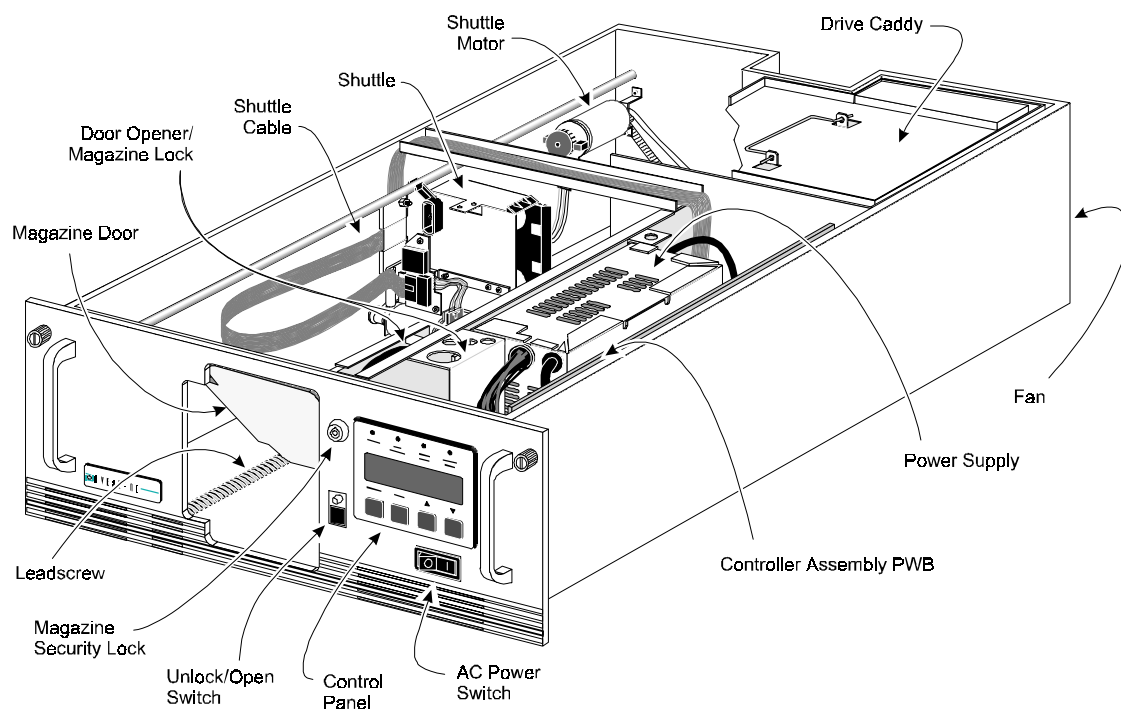
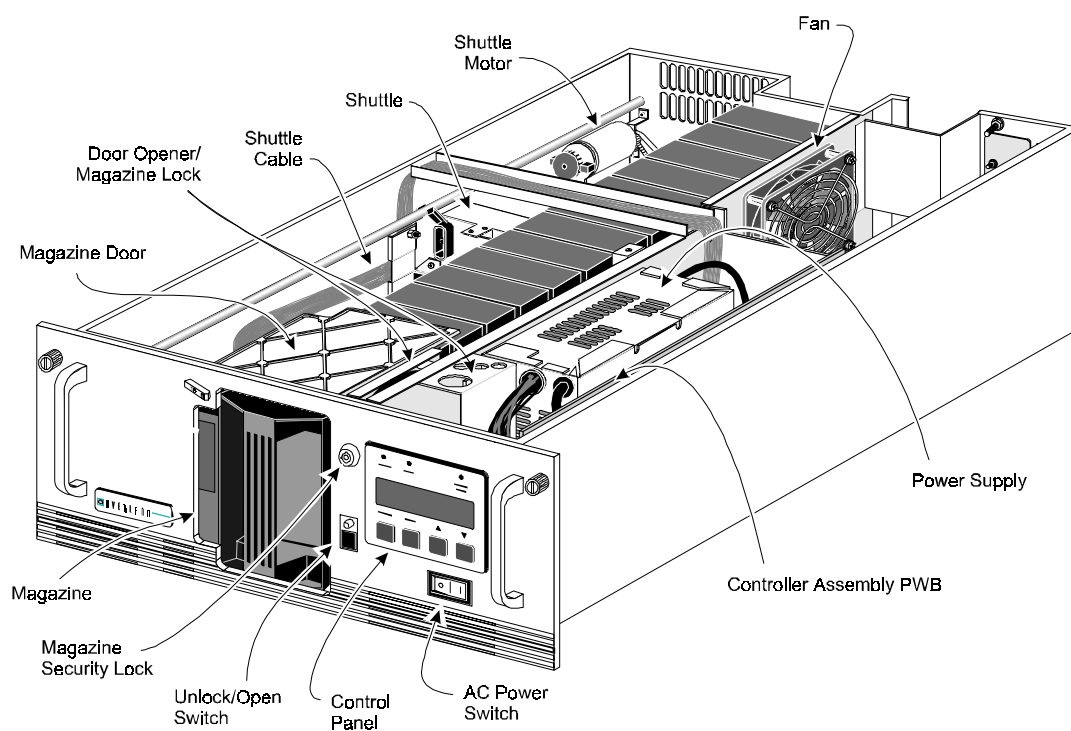

Figure 6-1 Parts Locations, Base Module
Figure 6-2 Parts Locations, Global Control and Capacity Modules
This chapter describes how to remove and replace parts of the DLT Library Express Global Control, Capacity, and Base Modules, as well as parts which must be removed to gain access to them. Figure 6-1 shows the locations of many of these parts. In addition to FRUs, instructions for accessing internal components by removing skin panels and access plates for the desktop and rack mount configurations follow in the next section.
Figure 6-1 shows the locations of most of the field-replaceable parts of the Base Module. Figure 6-2 shows those of the Global Control Module and the Capacity Module.
3. Locate the bracket behind the Control Panel that supports the door opener/magazine lock mechanism. It has a single 1" hole and three 3/8" holes on the top. Refer to Figure 6-1 and Figure 6-9.